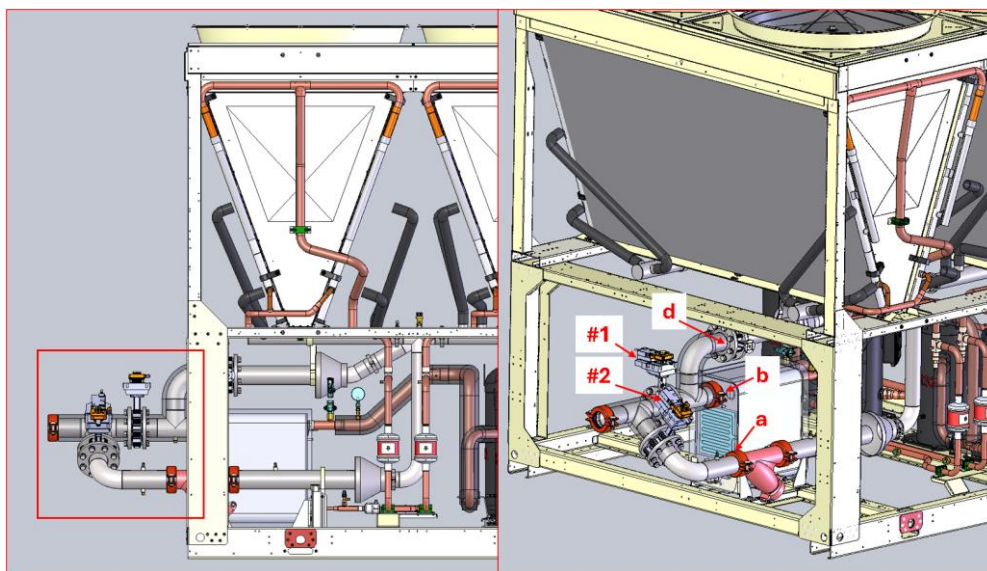

Fig. 19 – Details of the piping installation.
1. Insert the M16 bolt and nut into the central hole of the frame at the lifting point (Fig. 19).